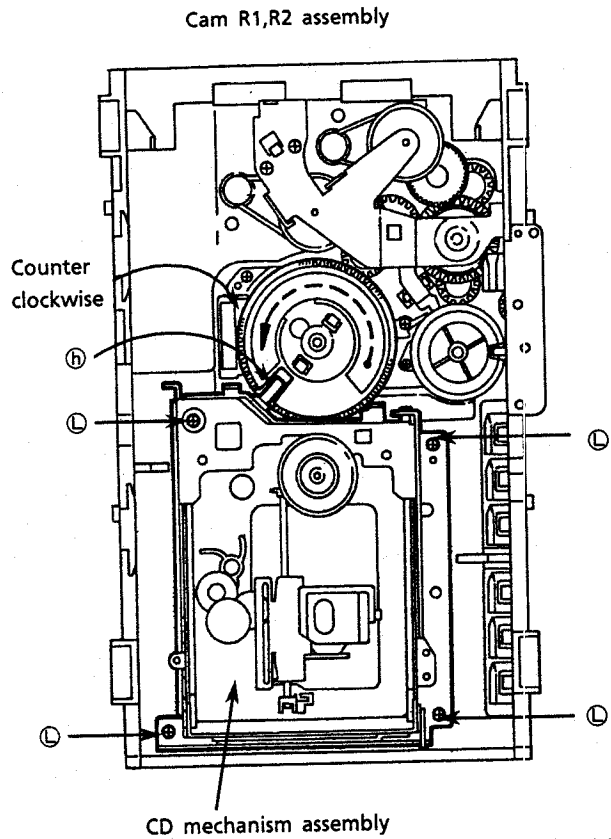

Fig. 28
2. Rotate the Cam R1, R2 ass'y counterclockwise so that CD mech. ass'y's shaft (h) is positioned as shown in Fig. 28.
3. Remove 4 screws (L) securing CD mech. ass'y. (See Fig. 28.)